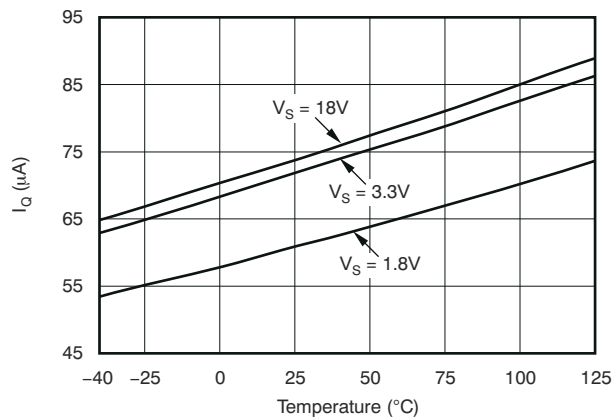

Figure 6-1. Quiescent Current Over Temperature and Supply
(1) 100% of production is tested at $T_A = +85^\circ\text{C}$. Specifications over temperature range are ensured by design.
(2) See Figure 6-1 for typical quiescent current.
(3) Shaded cells indicate characteristic performance difference.
(4) The TMP300 is functional over this range and no indication of performance is implied.